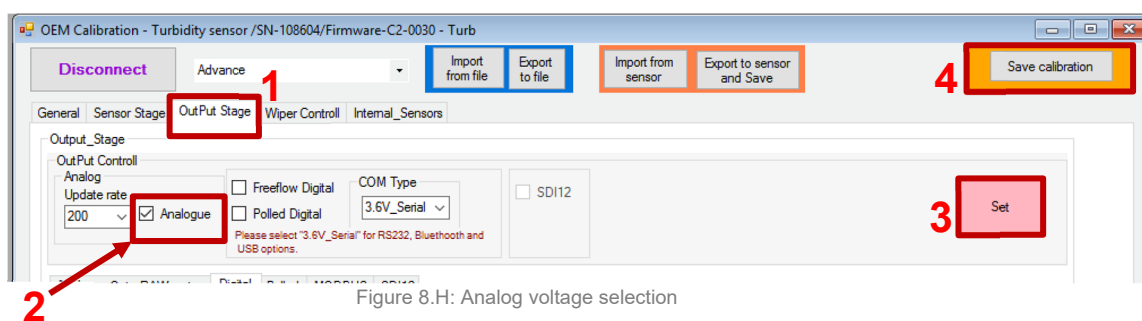

Figure 8.H: Analog voltage selection
- Select “OutPut Stage” option (Figure 8.H: Analog voltage selection# 1).